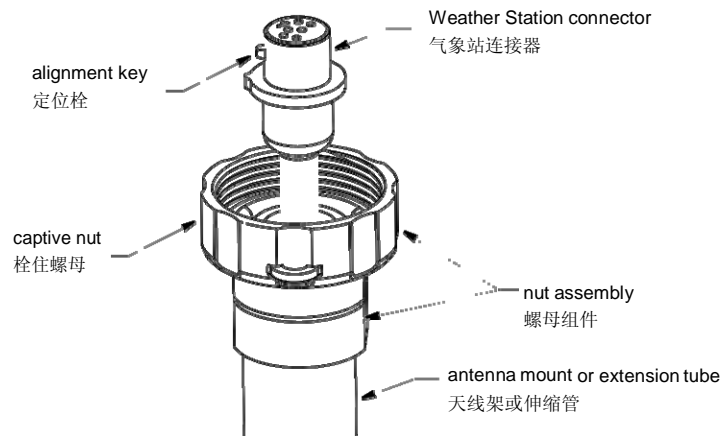

Figure 5. Attaching the cable to the Weather Station Instrument
1. With the nut assembly on the cable near the Weather Station connector, thread the cable through the extension tube (if used), antenna mount, and the cable exit. *Be sure to leave several inches of cable extending beyond the nut assembly (see Figure 5).*
附图5. 气象站仪器接电缆